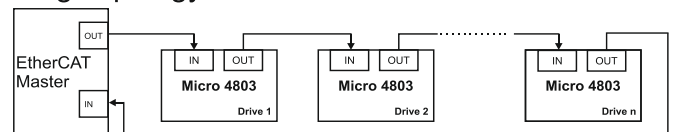

Figure 3-72 EtherCAT network ring topology
- Ring, when the OUT port of the last drive in the chain is connected back to the master controller, on the 2nd port of the master. This topology consists of the linear topology described above, plus an extra connection between the master, which has two RJ45 ports, to OUT of the last drive. See *Figure 3-72* for a visual representation of the ring topology.